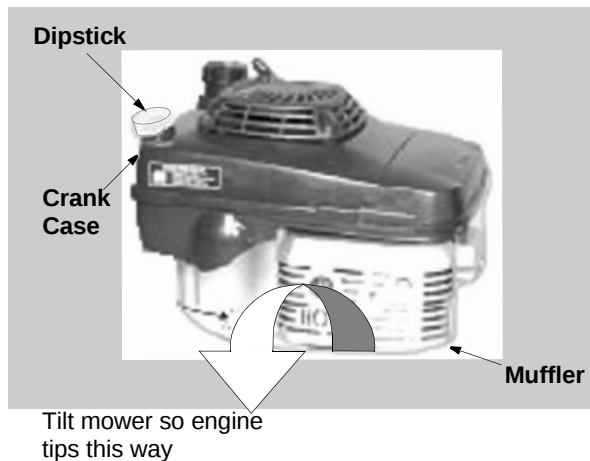

Figure 13
- For convenient handling, you may tip the mower as shown in Figure 13 below. Remove the dipstick from the engine and pour entire oil from the crank case into an appropriate container.